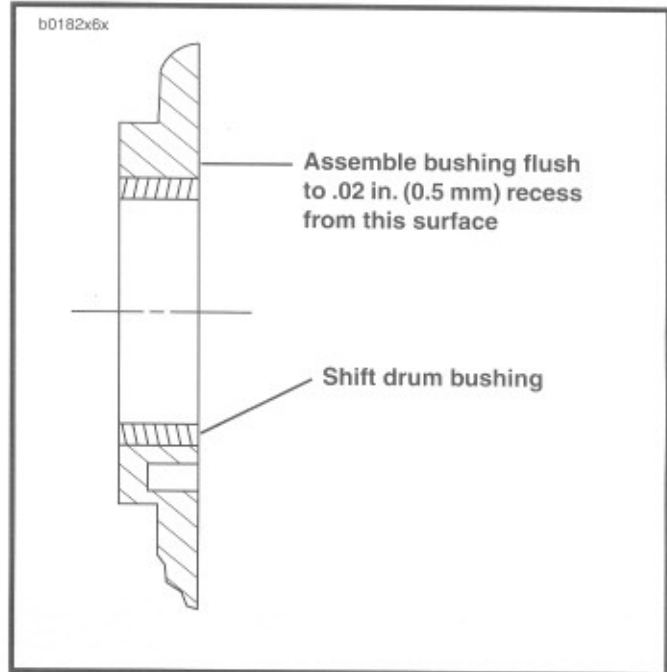

Figure 6-49. Shift Drum Bushing Assembly
2. See Figure 6-49. Lay bushing squarely over bore. Locate socket or pipe that is slightly larger than diameter of bushing. Place socket or pipe on bushing and press into bore until bushing is flush with or 0.020 in. (0.51 mm) below inside surface. If using a pressing tool larger than diameter of bushing, the pressing tool will bottom against door when bushing is flush with top surface.